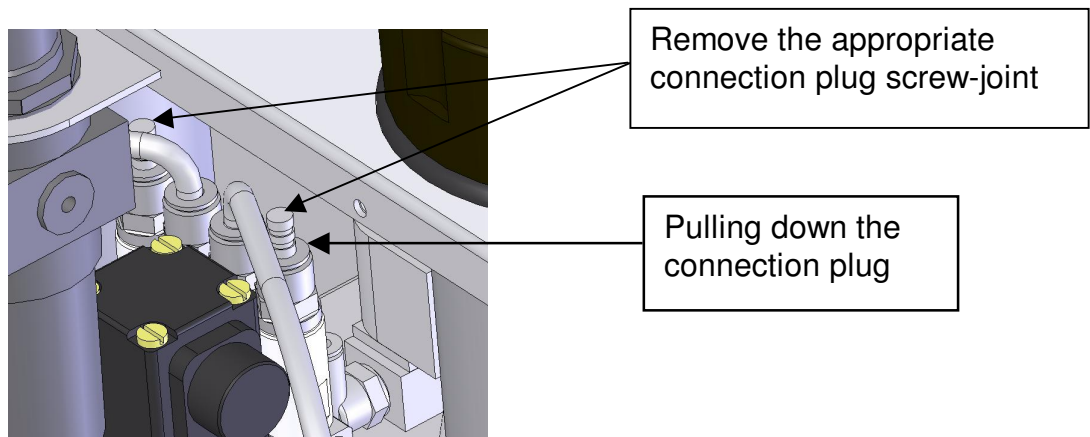

Figure 7
- On the back remove the connection plug on the air current unit, there also by pressing down the ring of the plug screw-joint and at the same time pulling on the connection plug. Tip: try pressing the ring down with the assistance of a slotted screwdriver. **Figure 7**